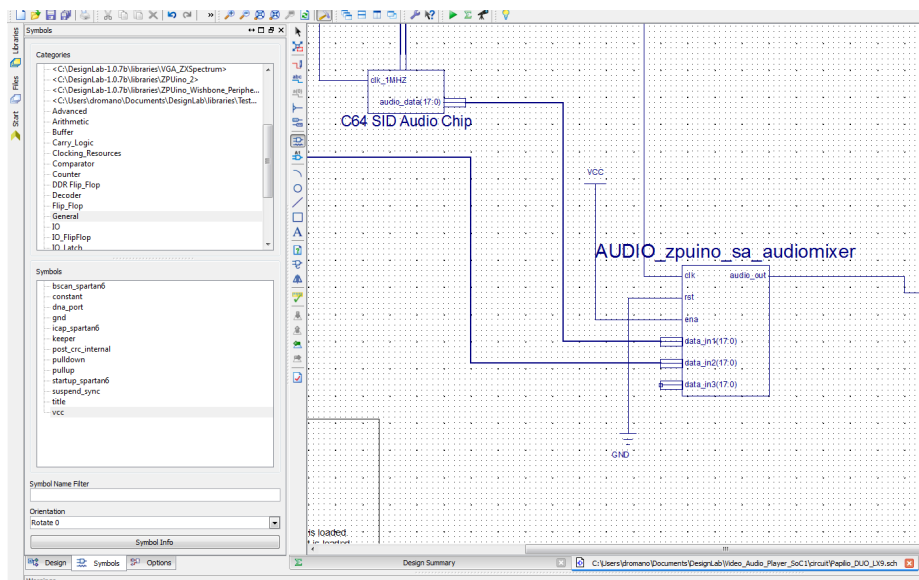

Figure 6-22 *Connect audiomixer control pins*
5. Lastly, just add a GND and a VCC symbol from the General category and connect the rst pin of the audiomixer to GND and the ena pin to VCC (Figure 6-22).